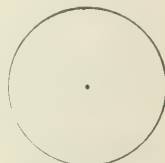

FIG. 11.
29. A **circle** (see Fig. 11) is a figure bounded by a curved line, called the **circumference**, every point of which is equally distant from a point within, called the **center**.